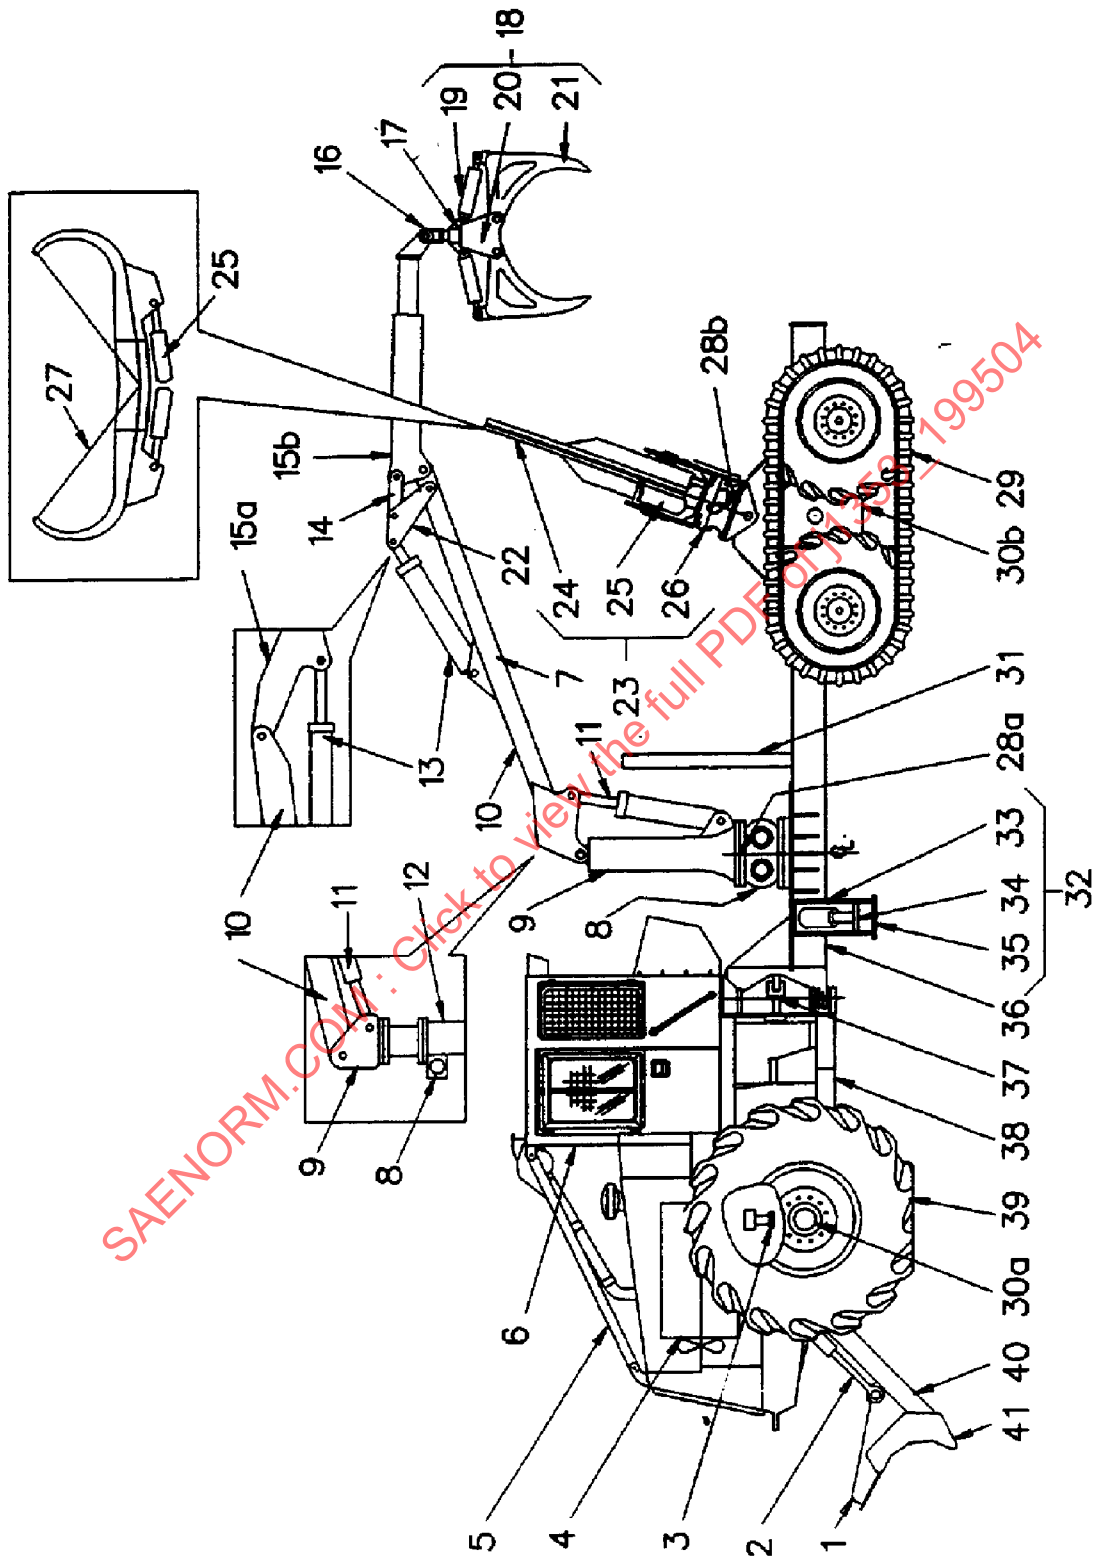

FIGURE 1—CLAM BUNK SKIDDER
**3.1 Clam Bunk Skidder (Figures 1 and 2)**—A self-propelled machine designed to transport trees or parts of trees by trailing or dragging by using an integrally mounted grapple loader to assemble the load and clam or top-opening jaw to hold the load.